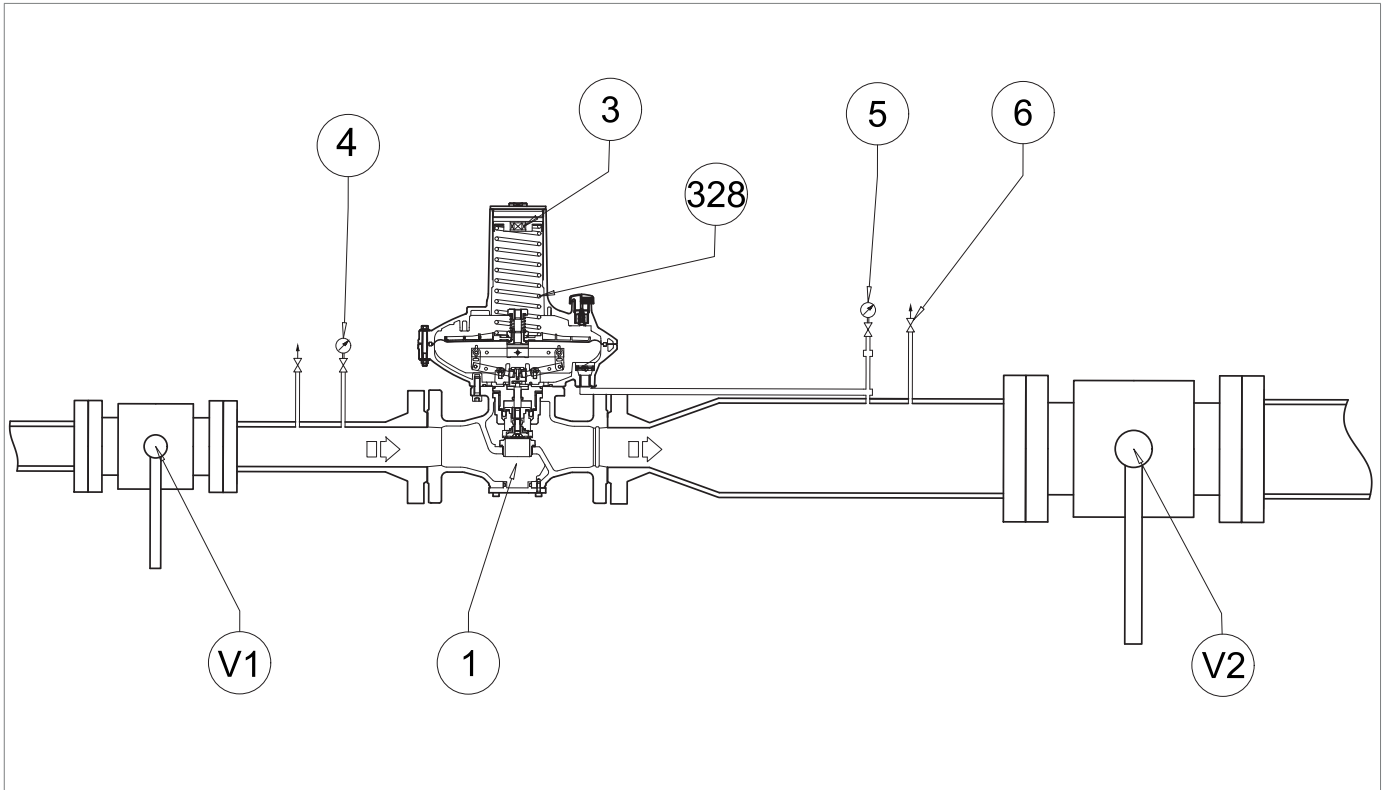
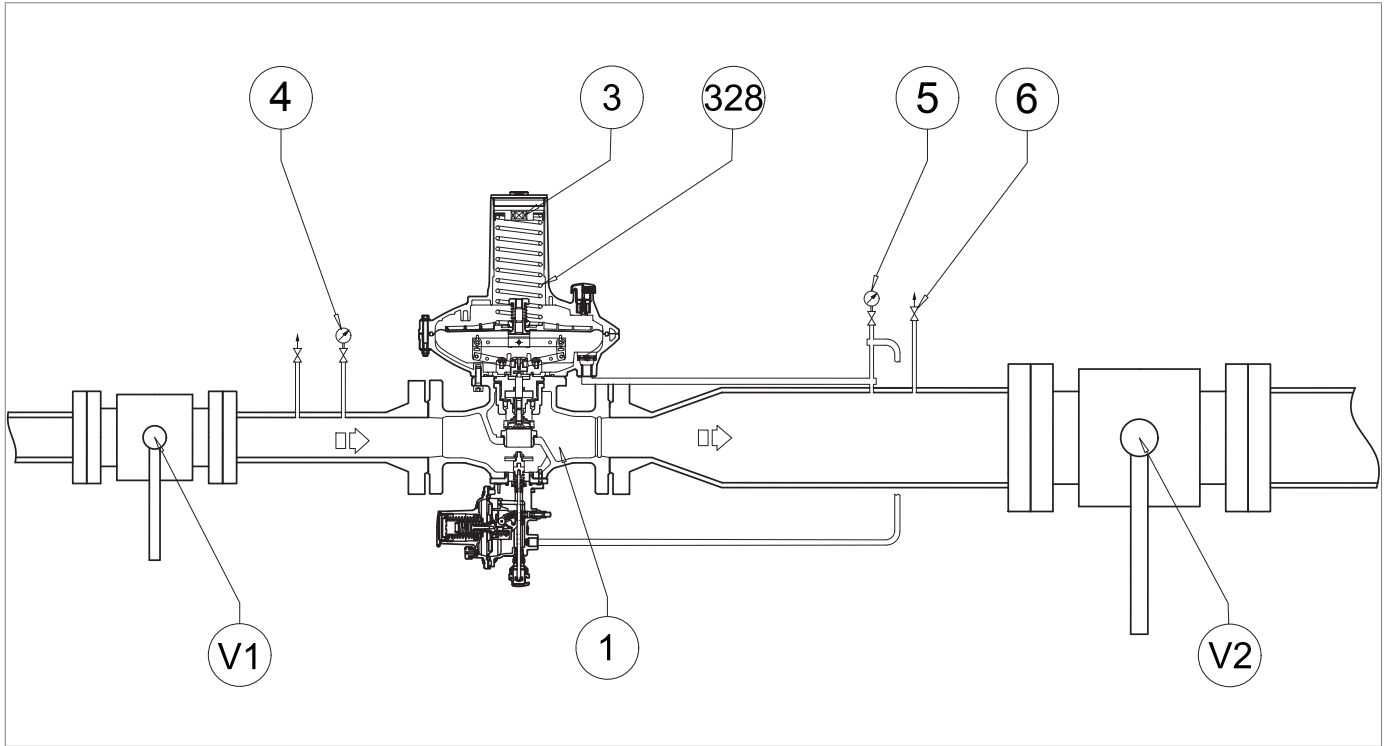
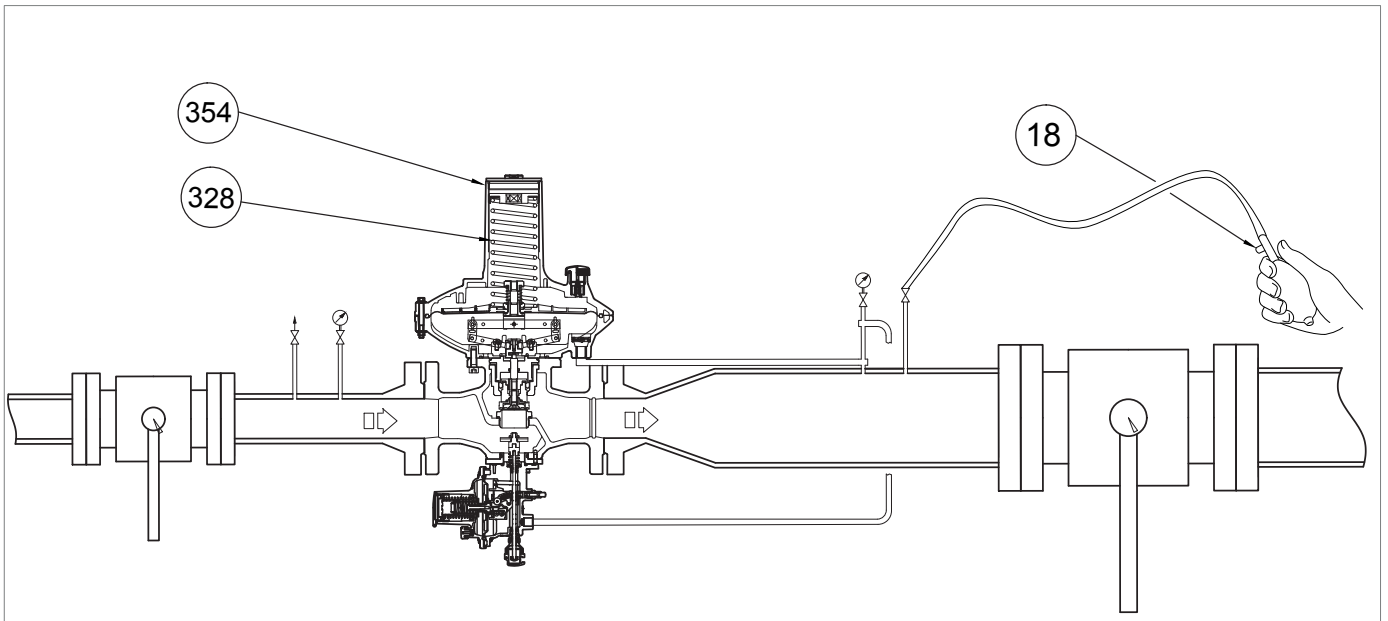

Fig. 8.16. Commissioning the DIVAL 600 regulator
Fig. 8.19. Commissioning of the DIVAL 600 regulator with LA slam-shut valve
Fig. 8.21. Pressurising with external source for incorporated LA slam-shut valve
For the following procedure, please refer to Figure 8.19 in par. "8.7.1 - Internal tightness check of LA slam-shut valve":
1	<p>Increase the downstream pressure to the tripping value of the slam-shut valve, connecting an external pressure source to the bleed cock (fig. 8.16, ref. 6) placed on the downstream pipe, making sure to open an additional bleed cock (fig. 8.21, ref. 18).</p> <div style="border: 1px solid black; padding: 5px;"> <p>! NOTICE!</p> <p>Check the pressure referring to the downstream pressure gauge (fig. 8.16, ref. 5).</p> <p>If the slam-shut valve:</p> <ul style="list-style-type: none"> • trips before the expected pressure value: screw in (clockwise) the adjustment ring nut (13) so as to further compress the spring (11); • does not trip at the expected pressure value: unscrew (anti-clockwise) the adjustment ring nut (13) so as to relieve the spring (11). </div>
3	Close the additional bleed cock (fig. 8.21, ref. 18).
6	Disconnect the external pressure source from the bleed cock (fig. 8.16, ref. 6).
3	<p>If necessary, remove the closing cap (fig. 8.21, ref. 354) together with the adjustment ring nut and remove the regulation spring (fig. 8.21, ref. 328).</p> <div style="border: 1px solid blue; padding: 5px;"> <p>! NOTICE!</p> <p>Check the tripping pressure value of the slam-shut valve indicated on the downstream pressure gauge (fig. 8.19, ref. 5).</p> </div>
5	<p>After having checked that the slam-shut valve trips at the preset value, proceed as follows:</p> <ol style="list-style-type: none"> Close the air vent valve (fig. 8.16, ref. 6) Position the regulation spring (fig. 8.21, ref. 328), the closing cap (fig. 8.21, ref. 354), and adjustment ring nut (fig. 8.16, ref. 3) Slowly open the upstream shut-off valve (V1) until the downstream pressure value (Pd) reaches the calibration value of the regulator, referring to the downstream pressure gauge (fig. 8.16, ref. 5) Close the upstream shut-off valve (V1) Slowly and partially open the air vent valve (fig. 8.16, ref. 6) to decrease the downstream pressure referring to the downstream pressure gauge (fig. 8.16, ref. 5) until it reaches the minimum pressure tripping value Check the minimum pressure spring for proper calibration by repeating steps 2-3-4 at least three times Calibrate the main regulator referring to par. "8.5 - Regulator commissioning procedure"